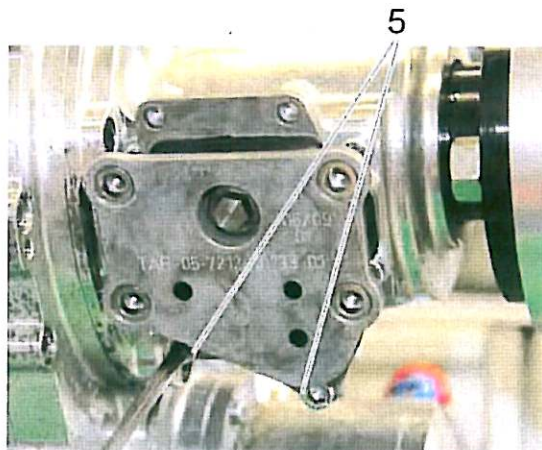

Figure 14
9. Apply Loctite 243 to the four screws (item 5).
10. Attach the vibration isolator (item 2) to the adapter plate (item 1) with the help of two screws (item 5) to which Loctite 243 have been applied in the last working step. See Figure 14.